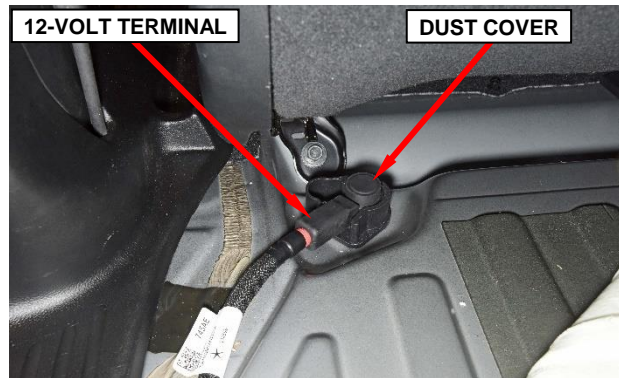

Figure 24 – 12-Volt Terminal Dust Cover
14. Release the dust cover from the 12-volt cable terminal (Figure 24).